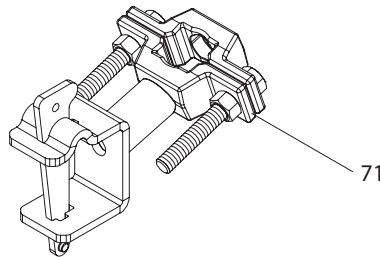

Fig. A9.03
3. Swivel up the pipe clamp part and tighten with screws. (Fig. A9.03 + A9.03a)